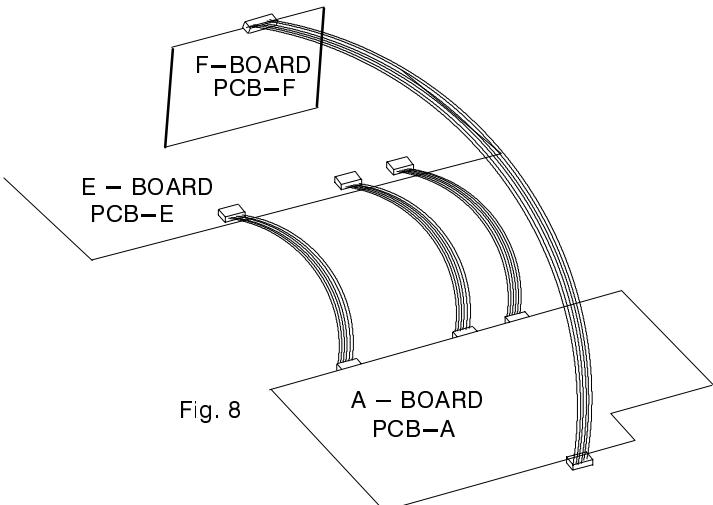

Fig. 8
1. Remove the A-board from the main chassis (E-board) as shown in Fig.8.
5. Fit the 4 extension leads to the A-board making sure that the A-board does not touch the E-board (fig.8).
- 1. Retirer la PCB-A du châssis principal ([PCB-E] tel qu'indiqué Fig.8).
- 6. Mettre en place les câbles d'extension (S'assurer que la PCB-A ne touche pas la PCB-E) (Fig.8).